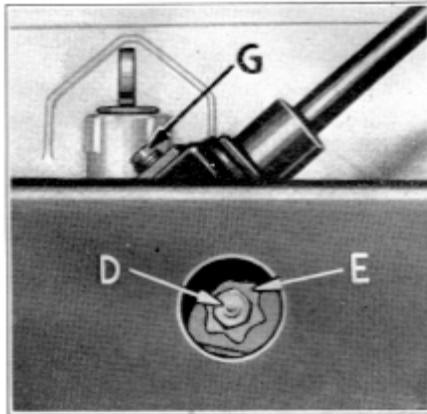

Figure 40
The mesh between the worm and roller tooth is adjusted by means of a slotted screw accessible through an opening in the frame side rail, Figure 40.
For proper lubrication use S.A.E. 90 E.P. gear oil for summer and winter. It is not necessary to change the oil in this unit, but rather add new lubricant when necessary to restore the level to the filler plug (G), Figure 40, hole opening. Tighten plug securely.